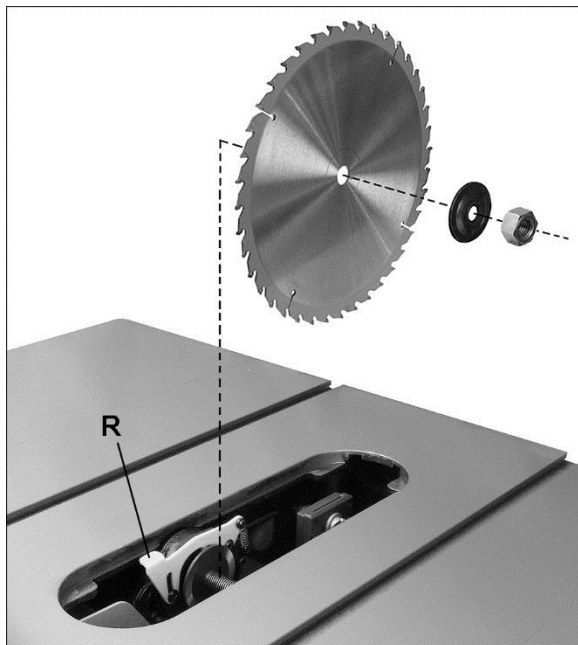

Figure 6-9: installing blade
See Figure 6-9.
6. Press down and hold lever (R, Figure 6-9), and rotate blade until arbor lock engages. Tighten nut clockwise with provided arbor wrench. Do not overtighten nut.
3. Pull clamp lever (S₁, Figure 6-9) upward. The clamp plate (S₂) is spring loaded and will move away from the fixed base, leaving a gap.